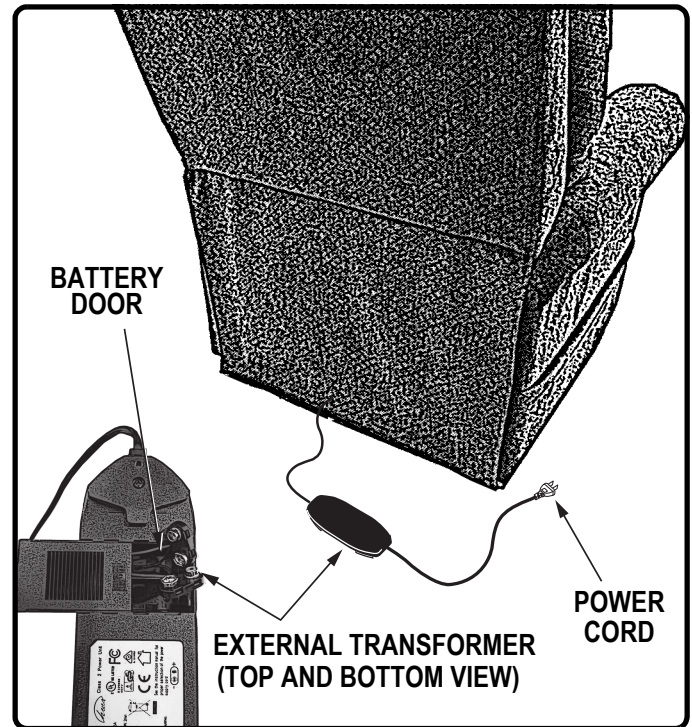

Figure S.3 Lift Chair Battery Backup Location
3. Install two 9V Alkaline batteries into the external transformer (Fig. S.3).